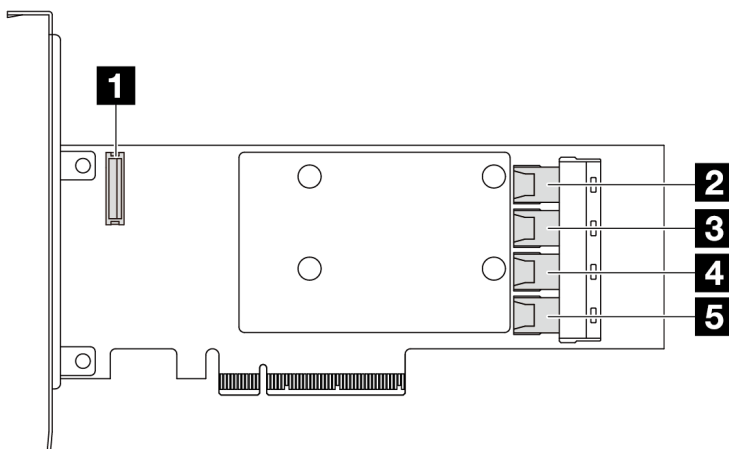

Figure 284. A Gen 3 16i SFF RAID/HBA adapter (four port connectors)
- Figure 284 “A Gen 3 16i SFF RAID adapter (four port connectors)” on page 315